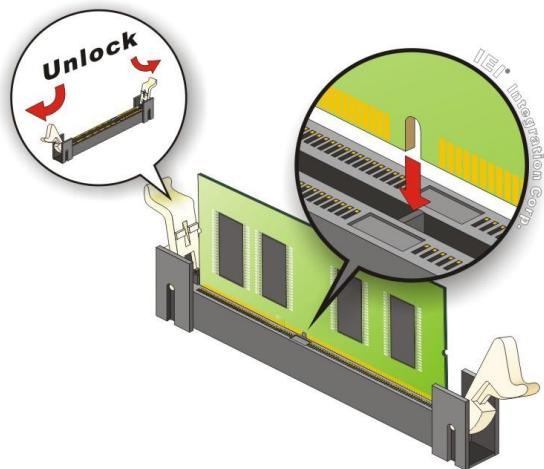

Figure 4-7: SO-DIMM Installation (DDR4)
To install a SO-DIMM, please follow the steps below and refer to Figure 4-7.
Step 1: Open the SO-DIMM socket handles. Open the two handles outwards as far as they can. See Figure 4-7.
Step 2: Align the SO-DIMM with the socket. Align the SO-DIMM so the notch on the memory lines up with the notch on the memory socket. See Figure 4-7.
Step 3: Insert the SO-DIMM. Once aligned, press down until the SO-DIMM is properly seated. Clip the two handles into place. See Figure 4-7.